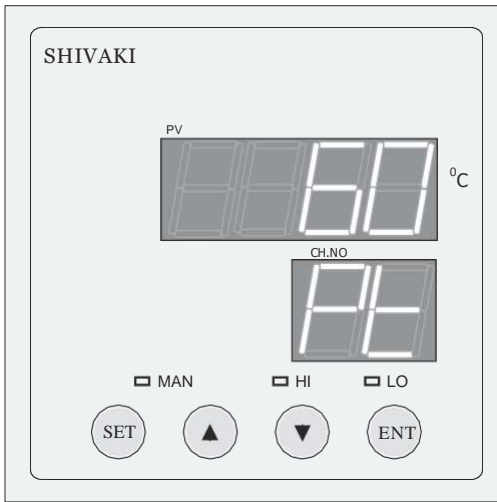

Fig.1.7.1
The top display (PV) shows the presetted value. The bottom display shows the parameter “Pt”. Use the  $\wedge$  &  $\vee$  keys to set the desired digit value (Scan time). Range: 1 to 99 Min (can be programmed in sec also. Consult factory) Press the ENT key. Refer Fig. 1.7.1